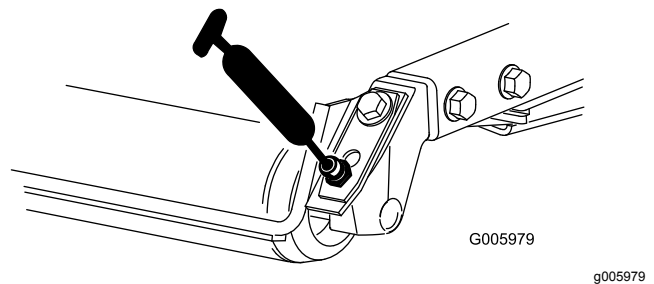

Figure 27
- Rear roller bearings (2 per cutting unit) (Figure 27)